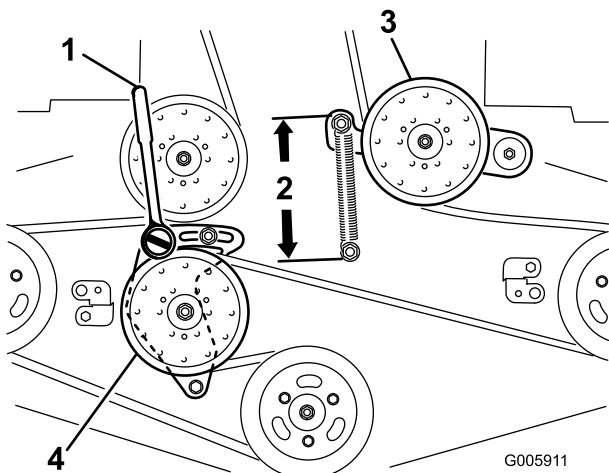

Figure 61
4. Loosen the fixed idler arm and adjust it to relieve belt tension (Figure 61).
- Insert a ratchet with a short extension or a breaker bar into the square hole in the fixed idler arm (Figure 61).
- To increase the belt tension, rotate the ratchet or breaker bar counterclockwise to move the fixed idler arm until there is 6–1/2 inches (16.5 cm) between the spring hooks (Figure 61).